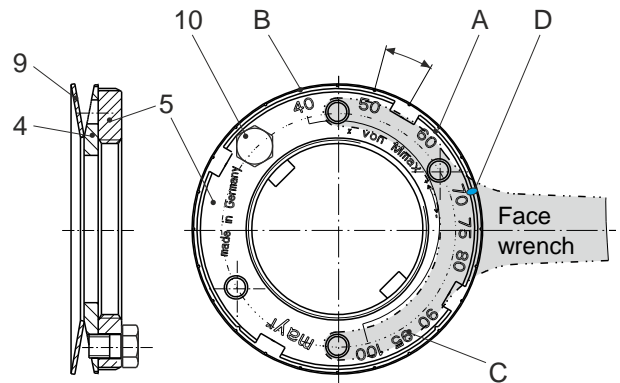

Fig. 10
You should be facing the adjusting nut (5) as shown in Fig. 10.
- b) Loosen the hexagon head screw (10) in the adjusting nut (5).
c) Turn the adjusting nut (5) using the engraved adjustment scale (Fig. 10) clockwise or anti-clockwise using a hook or a face wrench until the required torque is reached.
d) The required torque results from the marking overlap (D) on the locking ring (4) and the percent value (C) on the adjusting nut (5), see Fig. 10.